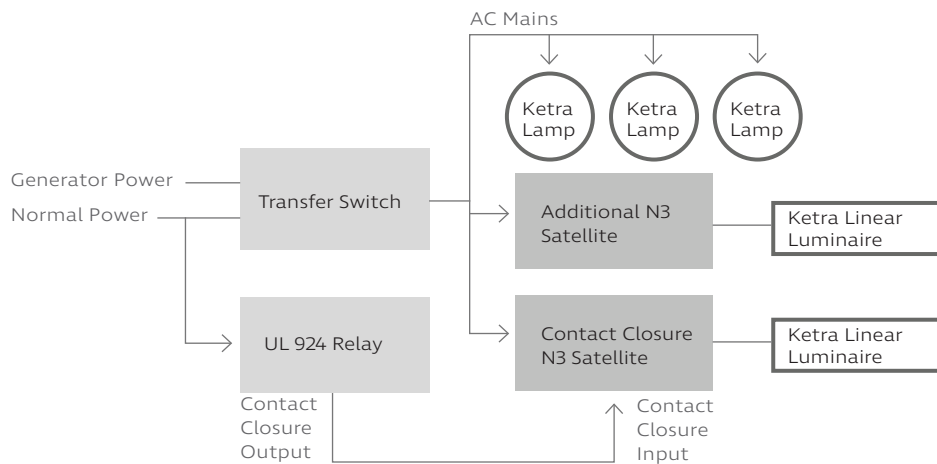

fig. 7
- Any N3 Satellites used for emergency lighting should be downstream of the transfer switch, as shown in fig. 7.